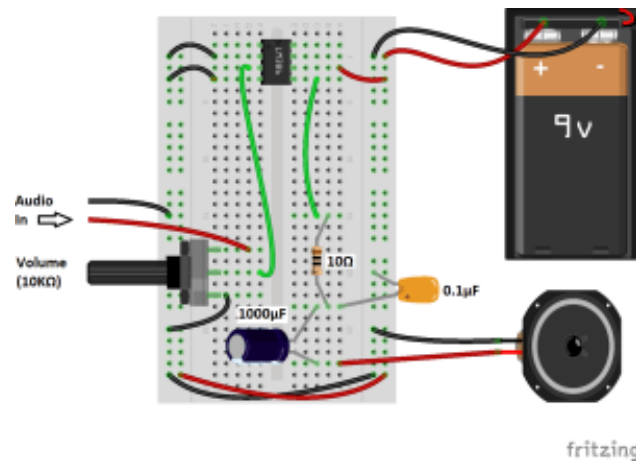

Figure 7.1: LM386 used as variable gain amplifier. This configuration presents a lot of noise and papping that can be solved by adding different components.
- LM386 as a controlled gain amplifier: by following the configuration shown in Figure 7.1, we can establish a amplifier with a variable voltage gain using the LM386 that allows us to up the volume of the music plugged to a certain level by controlling the gain.